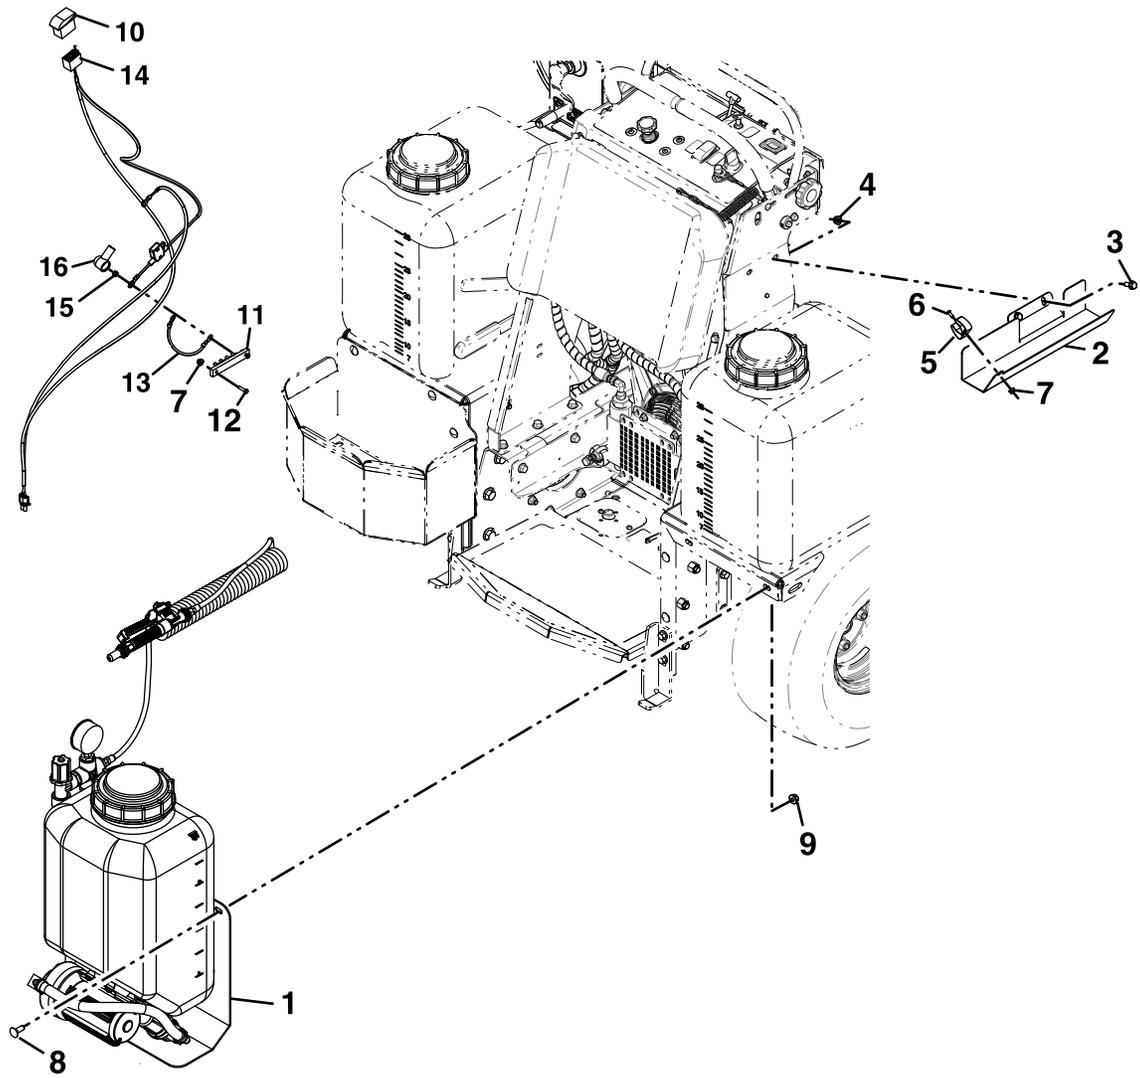

Figure 2
3. Install the tank assembly to the frame using two 3/8–16 x 1 inch carriage bolts and two 3/8 inch nyloc flanged nuts as shown in Figure 2.
12. Connect the pump connector from the tank assembly (item 1 in Figure 2) to the accessory pump connector.